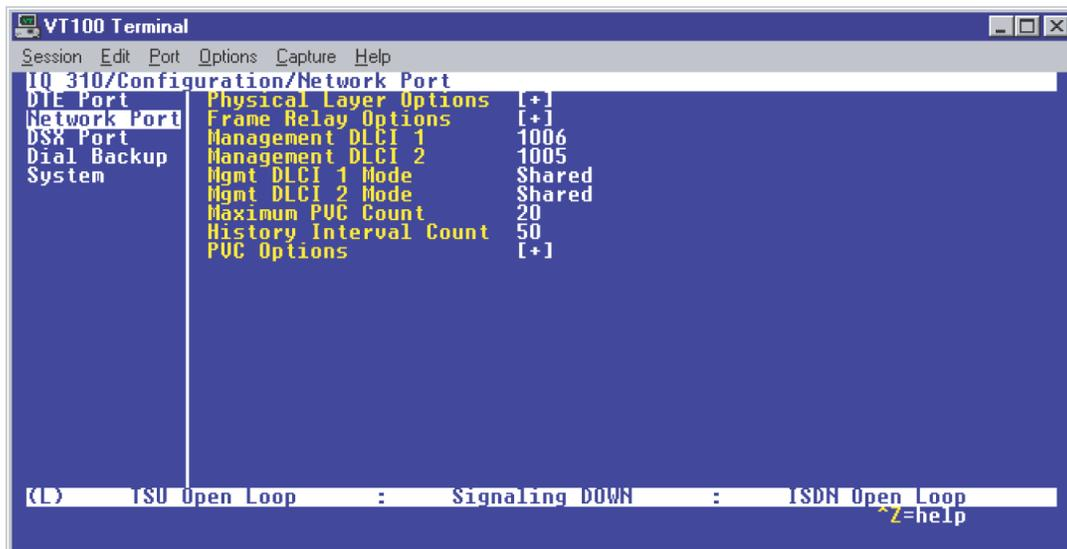

Figure 16. Network Port Menu
2. Use the arrow keys to select **NETWORK PORT**; then press **<ENTER>**. The screen shown in Figure 16 will appear.